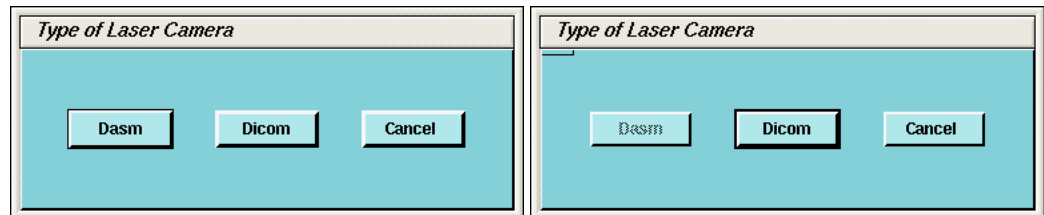

Figure 7-10 Dialog Box for camera Type (with and without DASM)
- b.) A dialog window for the camera type (DASM/DICOM) appears. If no DASM is detected during the OC boot, the DASM button will be disabled (Figure 7-10). If a DASM is present and has not been detected, reboot the OC and run the camera configuration tool again.